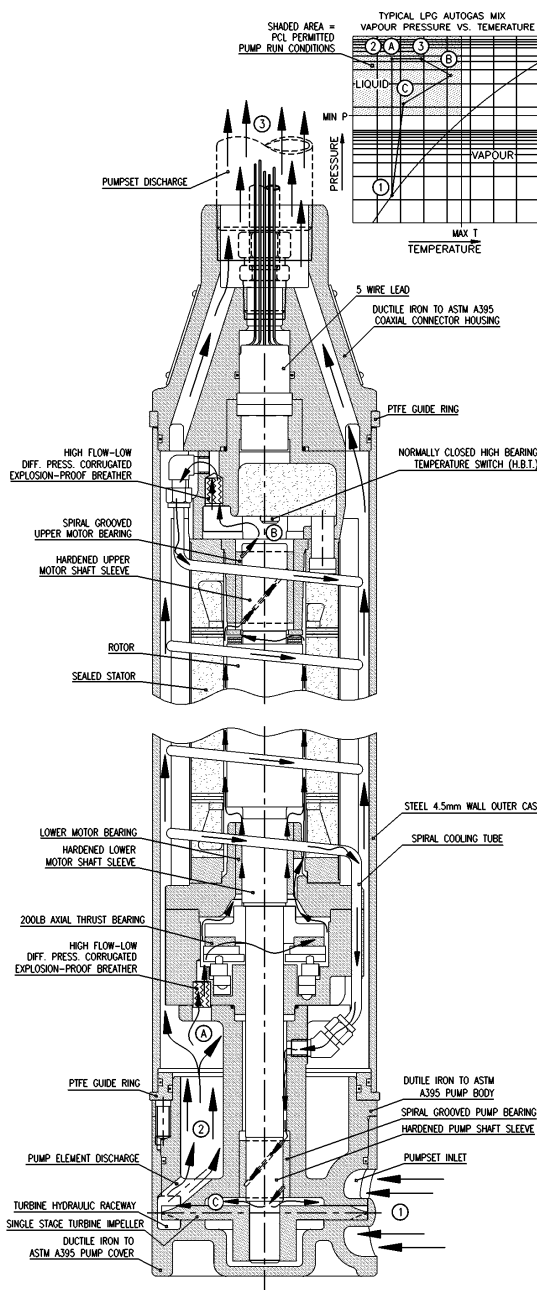

Figure 2
**A - B** (see Figure 2)
**B - C** (see Figure 2)